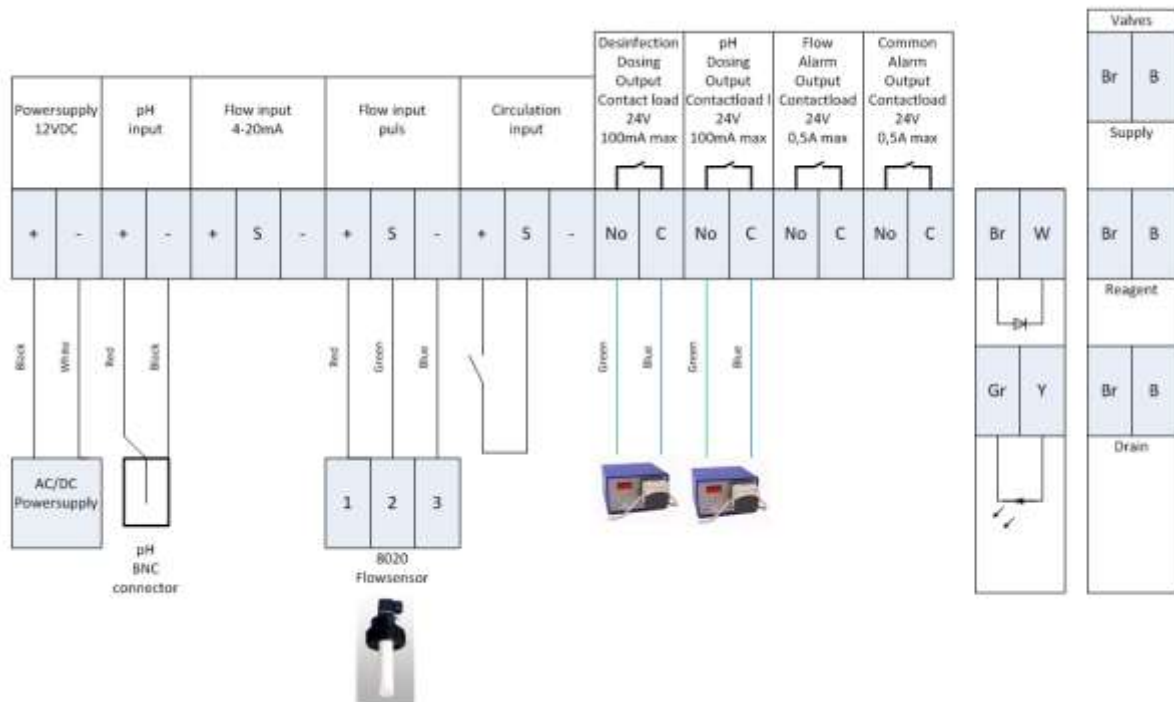

Figure 5.2.1.
7. Connect the cables from the control unit as in *figure 5.2.1*.